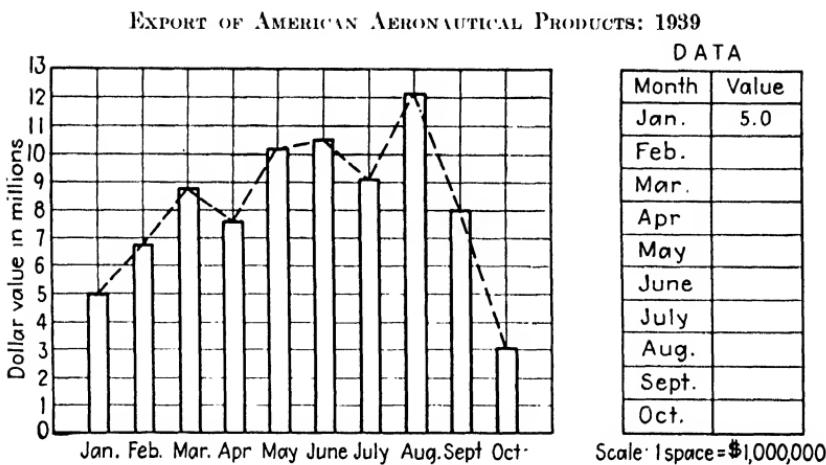

Fig. 144.
An examination of the broken-line graph in Fig. 144 will show that it differs in no essential way from the bar graph. If the top of each bar were joined by a line to the top of the next bar, a broken-line graph would result.
- Construct a table of data for the graph in Fig. 144.